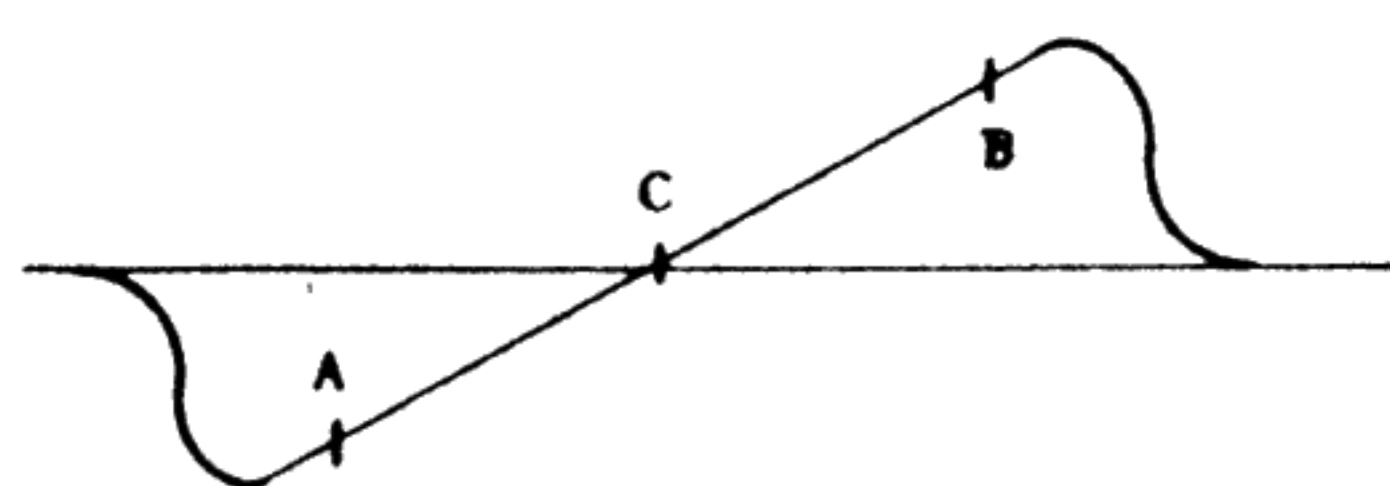

Fig. 14
- (2) At the article 1-(3). Adjust so that it will be just as S curve of Fig. 14 with the secondary core (upper) of T107. And by the primary core (lower) of the T107, adjust it so that the gain will be max. In this case, A and B will be at the symmetry position of C, and adjust it as the straight line can be gained. At the time of adjustment of Caution (1) and (2), we use ceramic filter, so the center of the marker will not sometimes come on that of wave form. In this case, neglect the marker.